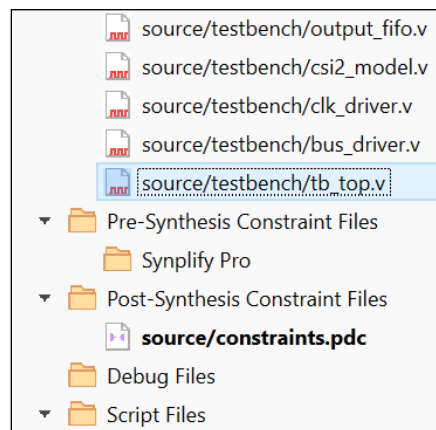

Figure 4.6. Open `tb_top.v` File
- Open the `tb_top.v` file present in the *File List* section in Radiant software as shown in Figure 4.6.